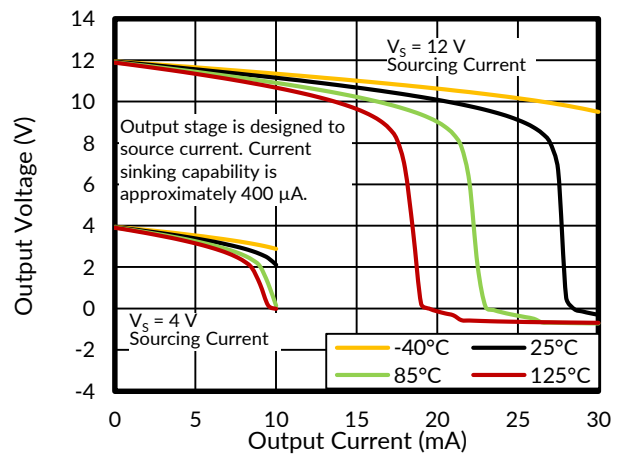

Figure 6. Positive Output Voltage Swing vs Output Current
- (1) Limits are 100% production tested at 25°C. Limits over the operating temperature range are ensured through correlations using statistical quality control (SQC) method.
- (2) Typical values represent the most likely parametric norm as determined at the time of characterization. Actual typical values may vary over time and will also depend on the application and configuration.
- (3) Total output error includes effects of gain error and V_{os} .
- (4) See Figure 6.
- (5) Specified by design.
- (6) For details on this region of operation, see Section 8.4.2.